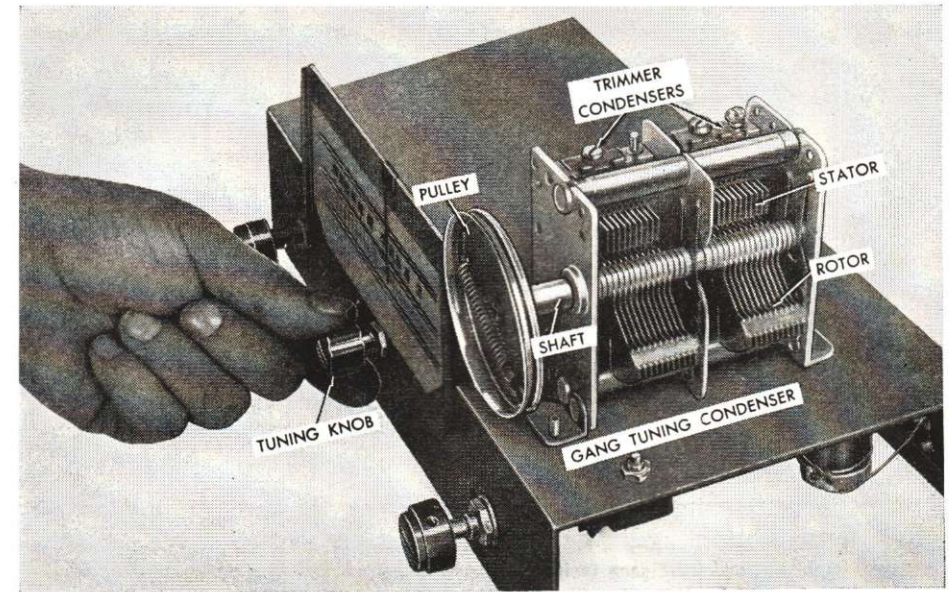

FIG. 12. View of the gang tuning condenser in our superheterodyne receiver, with important parts identified.
In Fig. 12 is a clear illustration of another highly important large part in our superheterodyne receiver, the *gang tuning condenser*. It has two sections, which work with the two r.f. coils located underneath the chassis. A tuning condenser is never used by itself; it is always used with a coil, and *tunes* the coil to a particular frequency. You will find this interesting situation many, many times in radio and television—different parts acting together to produce results which the parts could not give separately.
**Rotor and Stator.** Each section of our gang tuning condenser in Fig. 12 has two important parts:
**Dial Cord.** The tuning control knob in our superheterodyne receiver is quite some distance from the gang tuning condenser shaft, as you have probably noticed already in Fig. 12. Now, what makes the tuning condenser shaft rotate when we turn the tuning control knob? Also, what makes the dial pointer move to the correct dial number for the station whose program is coming from the loudspeaker?